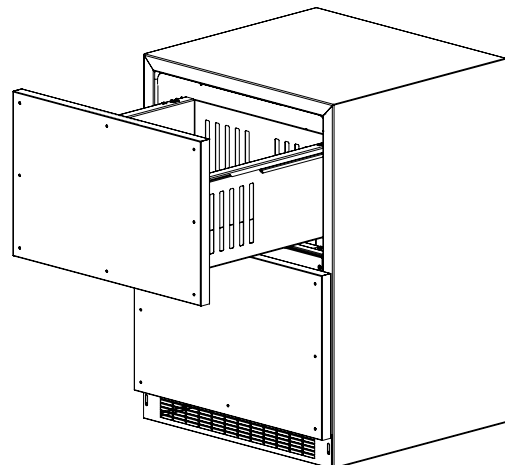
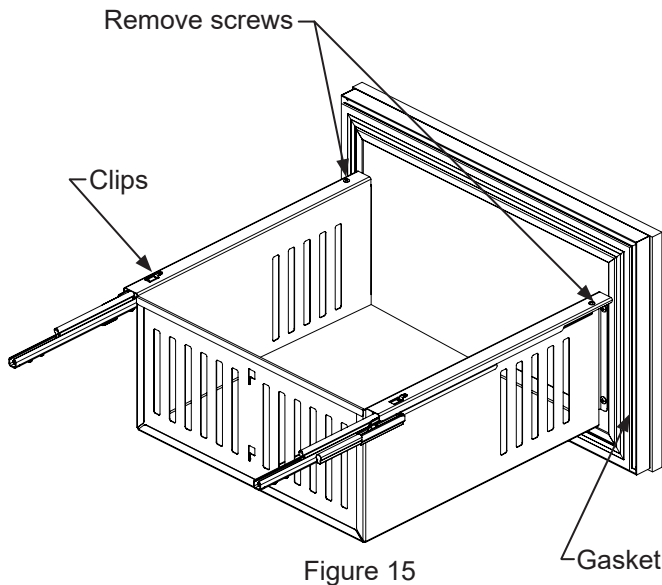
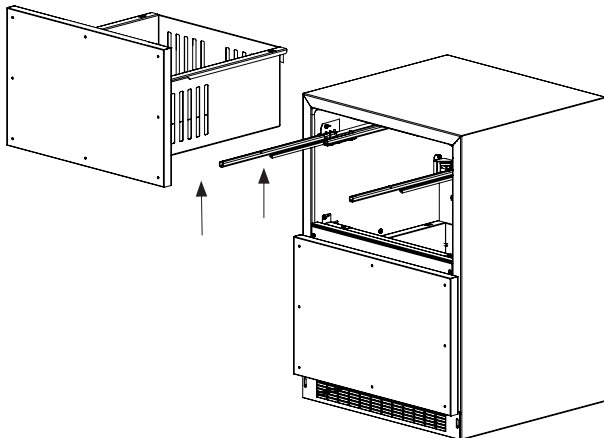

Figure 14
Figure 15
Figure 16
1. Begin by pulling out the top drawer. (See Figure 14). Remove screws securing drawer to slides (See Figure 15). Pull drawer forward, lift up and out to clear clips in rear of drawer. Move drawer forward about 1" (2.5 cm) and set down on slides. At the right rear corner of the drawer disconnect the display wire harness. Remove the drawer from the unit by lifting up off of the slides. Repeat for bottom drawer but disregard the harness instructions as there is no wiring to the bottom drawer.
2. Remove the drawer divider from the drawer and remove the gasket from the drawer front. (See Figure 15). Do this by pulling the gasket out of the channel that holds it to the drawer front. This will expose the clearance holes for mounting the integrated panel. (See Figure 16).